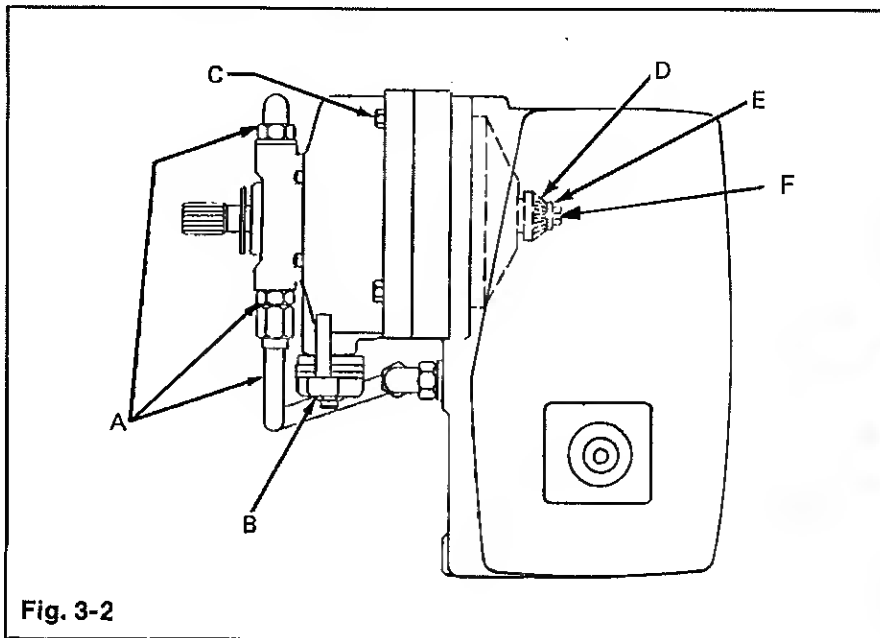

Fig. 3-2
**NOTE: SEE TRANSAXLE REMOVAL** page 3-6 before removing hydro. Some models may require removing transaxle before hydrostatic removal. **HYDROSTATIC REMOVAL (Fig. 3-2 & 3-3)**
3. Clean any dirt or grease from hydraulic line (A) fittings.
4. Disconnect hydraulic lines (A) from hydro. Have oil pan to catch excess oil.
5. Remove nut and washer on control shaft and slide control arm assembly (B) off shaft.
6. Remove the four (4) mounting cap screws (C) securing the hydrostatic to the transaxle.